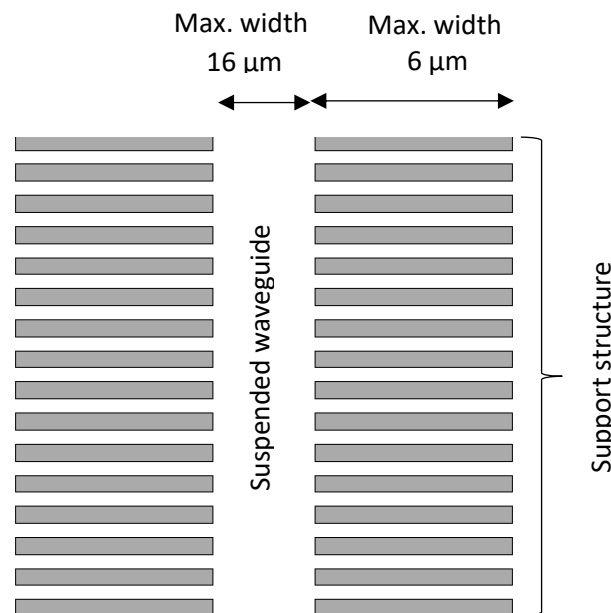

Figure 1: Design rule for suspended and supporting/subwavelength structure maximum width
- After HF etch, the expected lateral BOX undercut is 8 µm. Therefore, the maximum width of suspended structures should be 16 µm (see Figure 1).
- Width of the supporting structure/subwavelength structure <6 µm have proven to work (see Figure 1). **If you try more challenging dimensions, do so at your own risk.**
^{\S} After HF etch, the expected lateral BOX undercut is 8 μm . Therefore, the maximum width of suspended structures should be 16 μm (see Figure 1).
^{\alpha}Width of the supporting structure/subwavelength structure <6 μm have proven to work (see Figure 1). **If you try more challenging dimensions, do so at your own risk.**